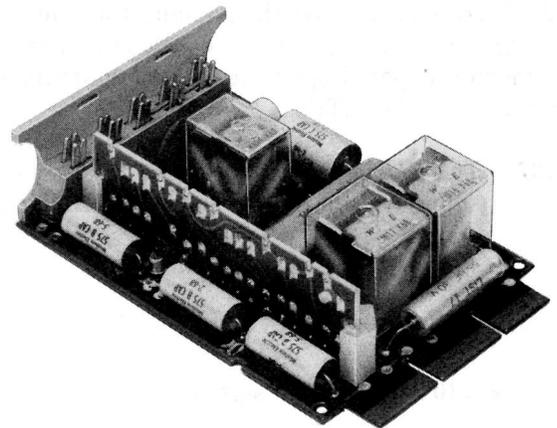

Fig. 1—Typical 4-Inch Key Telephone Unit
1.04 All circuit components on these KTUs are mounted on a plug-in printed wiring board, one end of which is equipped with contacts. A 4-inch board may have 18-, 20-, or 40-contacts; an 8-inch board will have 80 contacts (requiring two vertical 40-pin connectors). The circuit boards plug into mating connectors in key service units, panels, or apparatus mountings. Wiring from the connectors will be dedicated or nondedicated leads. Dedicated leads are those that normally appear on the same contacts of all KTUs, such as supply voltages and grounds, and are normally factory-wired. Nondedicated leads are those whose designation and function vary and are made available for installer connections. Typical 4- and 8-inch KTUs are shown in Fig. 1 and 2.